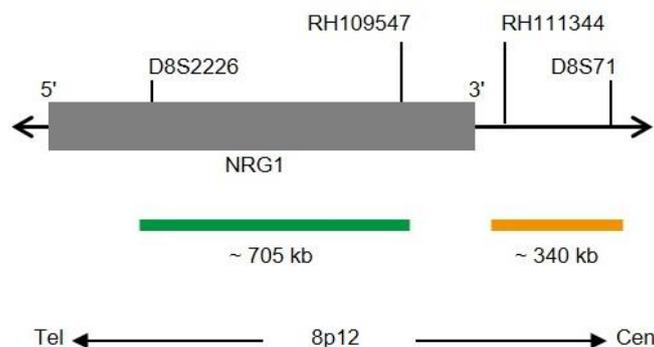

Fig. 1: SPEC NRG1 Probe map (not to scale)
- ZyGreen (excitation 503 nm/emission 528 nm) labeled polynucleotides (10 ng/μl), which target sequences mapping in 8p12* (chr8:31,730,448-32,433,429) distal to the NRG1 breakpoint region (see Fig. 1).
- ZyOrange (excitation 547 nm/emission at 572 nm) labeled polynucleotides (4.5 ng/μl), which target sequences mapping in 8p12* (chr8:32,644,505-32,985,279) proximal to the NRG1 breakpoint region (see Fig. 1).